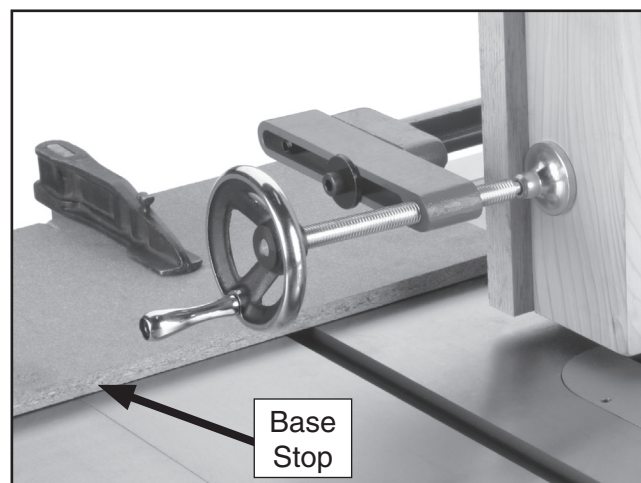

Figure 17. Base stop attached to the table saw.
2. Plane a wood base stop to the thickness of the tenoning jig base, and mount it to the front of the table saw as shown in **Figure 17**. The base stop prevents cut off pieces getting trapped between the saw blade and the work support plate.